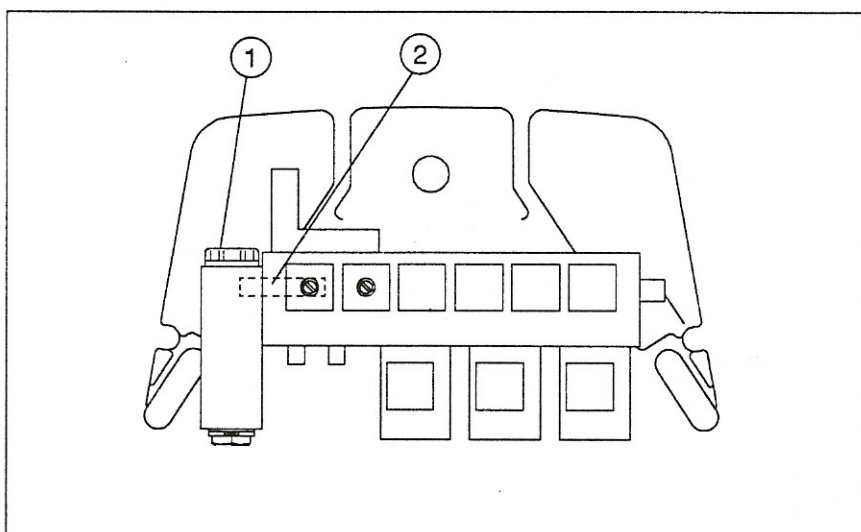

Figure 7. Replacement of water filter.
- 4) Unscrew the water filter (Fig. 7 (1)) by hand and mount a new water filter in the block.
- 5) Remove the nozzle (Fig. 7 (2)) between filter block and valve block to clean it.